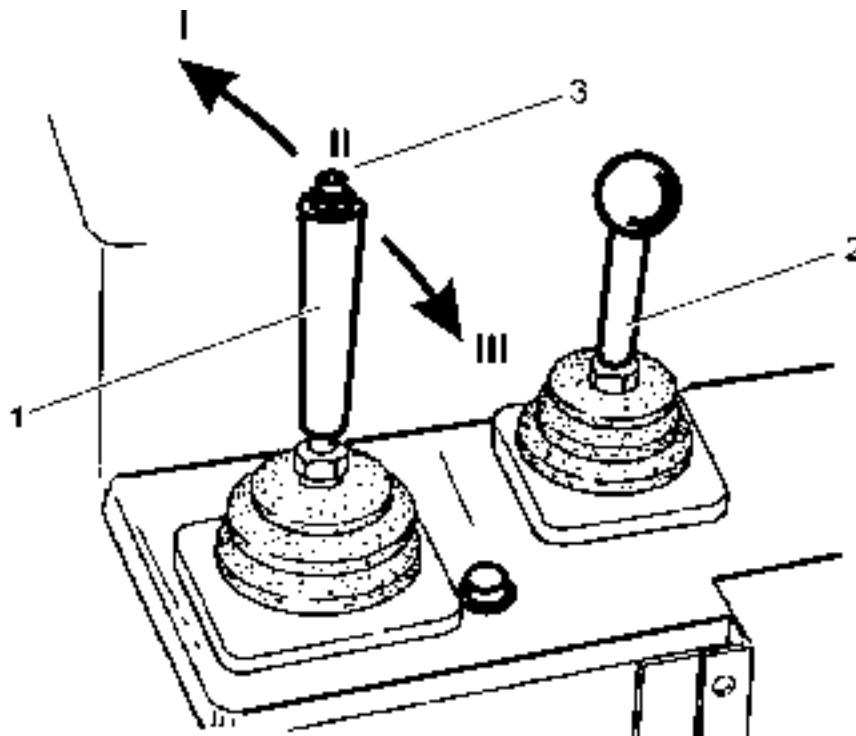

Fig. 4.22. Blade Pitch Control Lever Positions (1)
## 4.17.1.6. PITCH (FORWARD OR AFT) (Fig. 4.22)
1. To pitch the blade forward (increasing the suction angle), raise the blade several centimeters off the ground. Then depress button (3, Fig. 4.22) and hold it down while shifting the blade control lever to left (inwards) until the desired pitch is obtained.
2. To pitch the blade backward (decreasing the suction angle), raise the blade several centimeters off the ground. Then depress button (3, Fig. 4.22) and hold it down while shifting the blade control lever to right (outwards) until the desired pitch is obtained.